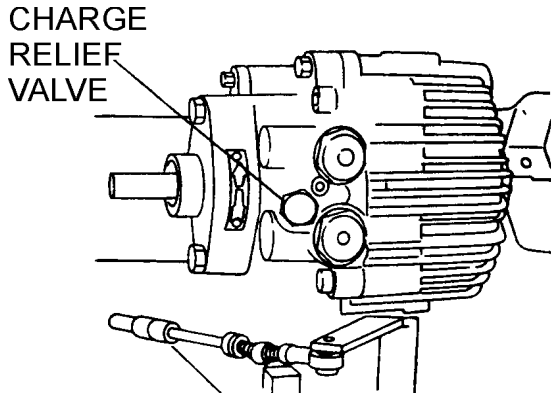

Figure 35. Loosening Charge Relief Valve
2. Loosen the charge relief valve located on the front side of the hydraulic transmission (Figure 35).